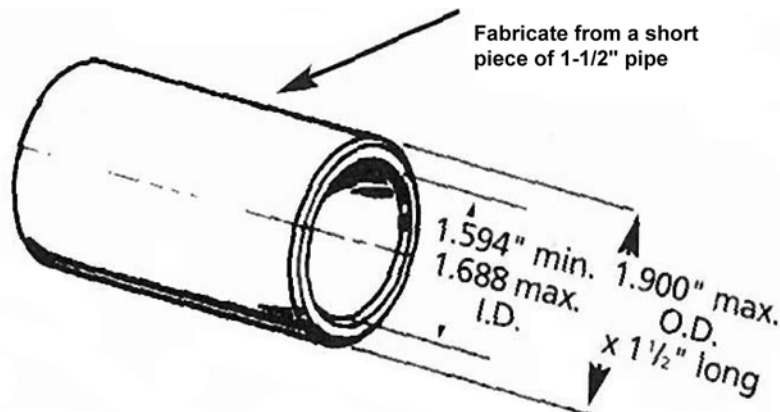
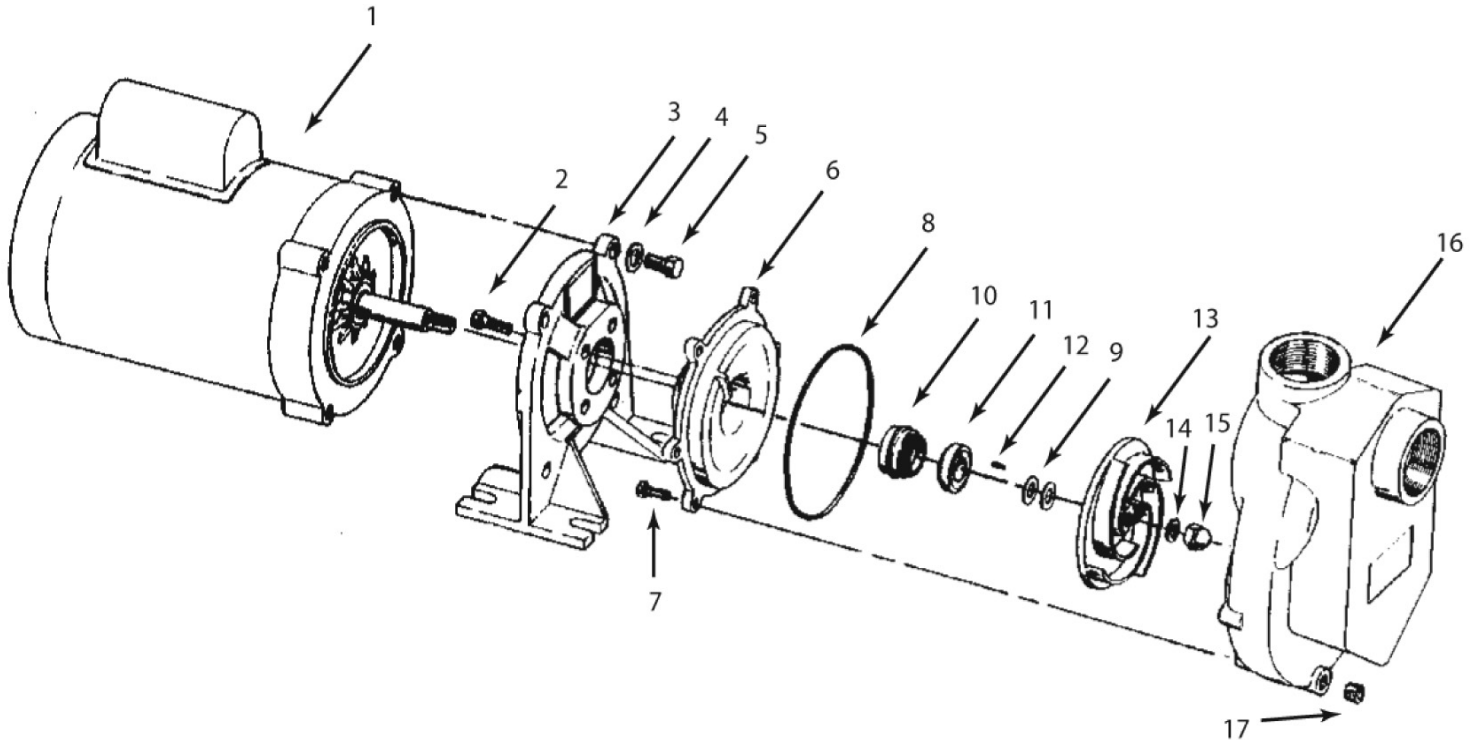

Figure 2 - Seal Installation Tool
Figure 3 - Repair Parts Illustrations
8. Apply a light coat of sealing compound to new seal head (See Figure 2) and press it into casing cover recess using proper size tube or installation tool (see Figure 3). **DO NOT** press on carbon face or top of metal cup of the seal head. Install using flange only.